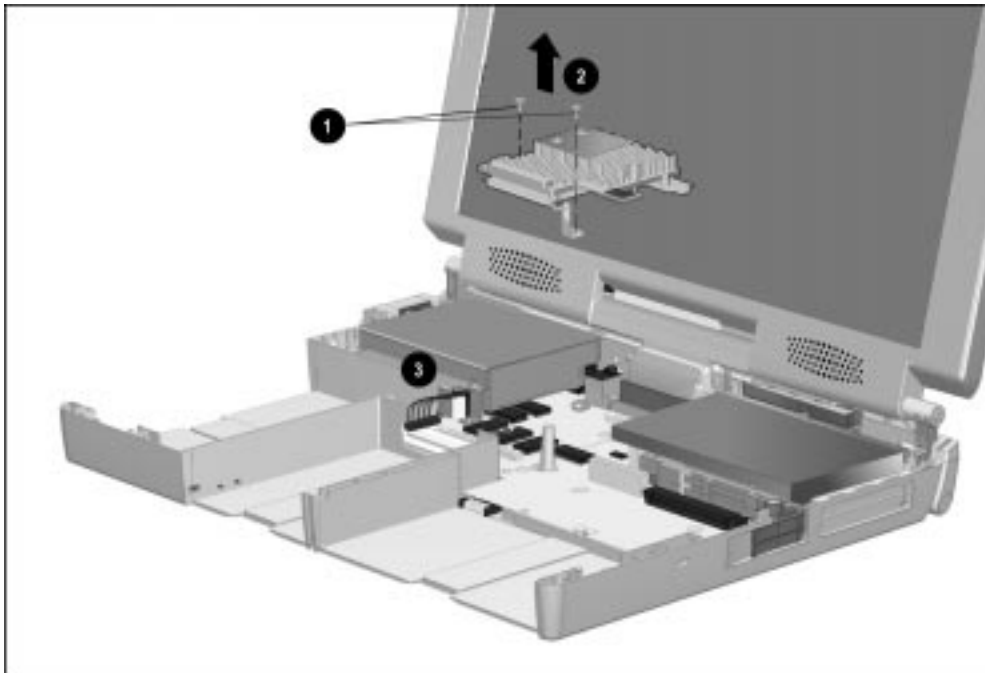

Figure 5-45. Removing the Processor Module Assembly
7. Remove the two screws ❶ that secure the processor module assembly to the system board (Figure 5-45).
8. Lift up on the front of the processor module assembly until the connection to the system board disconnects ❷. Once disconnected, lift up on the back of the processor module assembly to remove it.